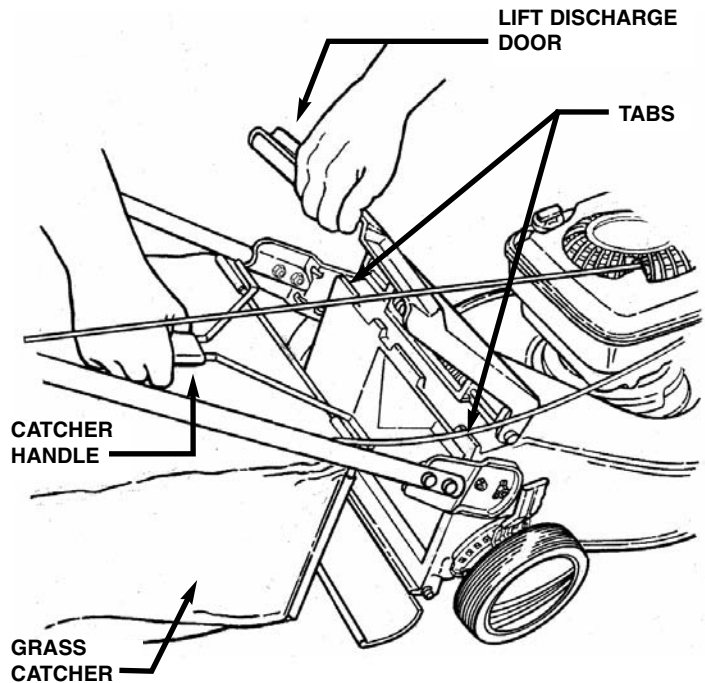

FIGURE 2.8
2. Lift discharge door located at the rear of machine. See Figure 2.8.